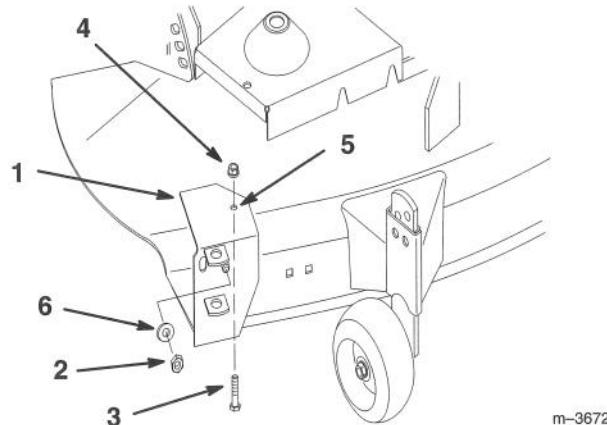

Figure 6
- Slide the pivot support over the threaded stud welded to the front of the mower near the discharge opening. Use the inside slot on the pivot support (Fig. 6).
- Align the pivot support parallel with the front curved edge of the mower deck and tight up against the top of the mower. (Fig. 6). Clamp the pivot support in this position.
- Secure the pivot support to the mower with a 5/16 x 3/4" (19 mm) bolt and a 5/16" flange nut (Fig. 6).
- Place a 3/8" washer and 3/8" jam nut (removed from the discharge chute) snug onto the stud. Do not overtighten the jam nut (Fig. 6).